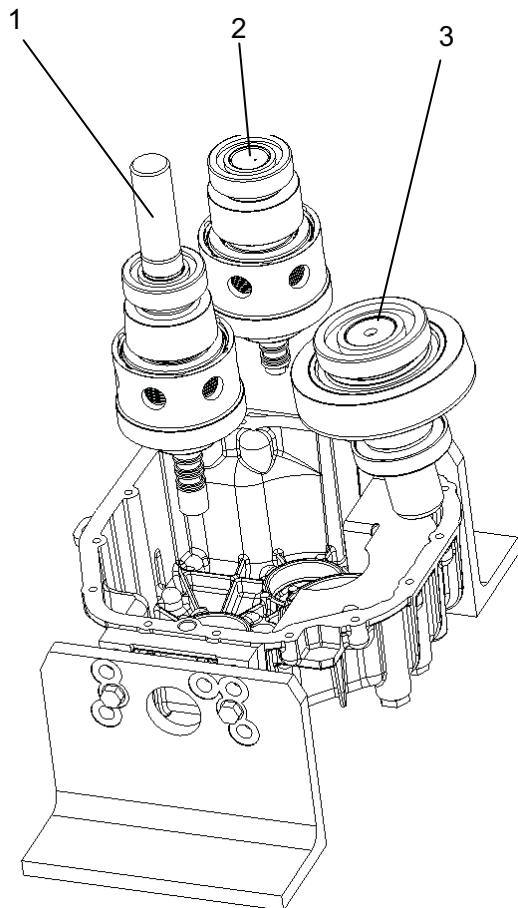

Fig.6-5
- Input shaft (Fig. 6-5, item1).
- Support shaft (Fig. 6-5, item2)
- Output shaft (Fig. 6-5, item3)
Check all gears, bearings, piston rings on the input shaft and support shaft (Fig. 6-5, item 4 and 5) for signs of wear or failure.